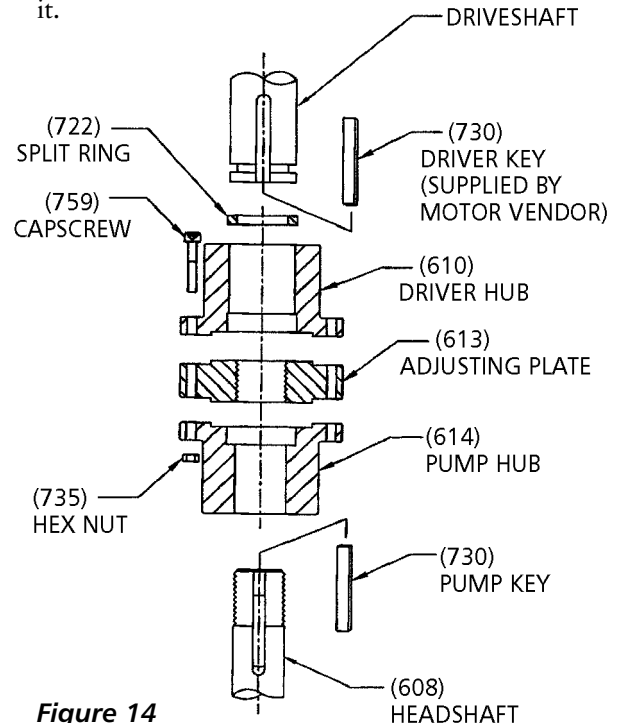
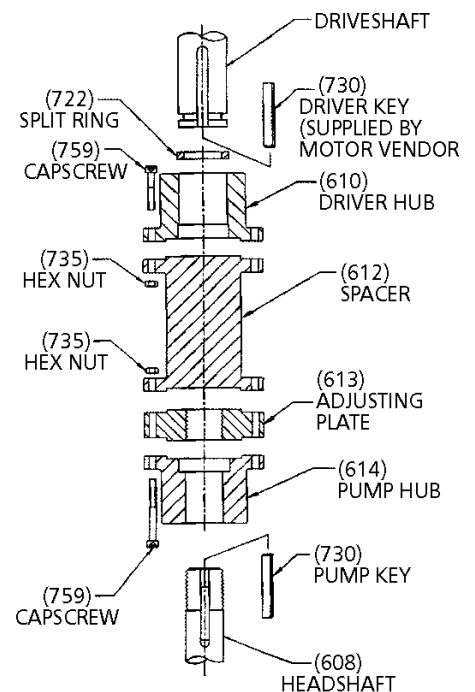

Figure 14
Figure 15
The coupling between the driveshaft and discharge head shaft may be a non-spacer type (see Figure 14), or a spacer type (see Figure 15). The latter is used on pumps furnished with a mechanical seal to permit servicing of the seal without removal of the driver.
COUPLING INSTALLATION: (SEE FIGURES 14 and 15)
5. If the pump is supplied with an adjustable spacer coupling (see Figure 15), install spacer (612) between headshaft and driveshaft hubs. Secure with capscrews (759) and hex nuts (735).
2. After impeller adjustment, align adjusting plate (613) with the pump hub (614), and tightly draw coupling flanges together with capscrews (759) and nuts (735). (See Figures 14 and 15.)